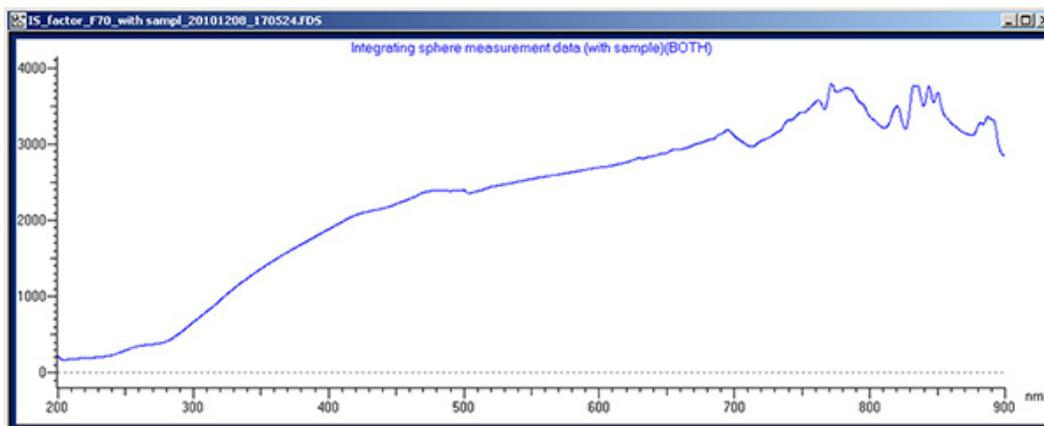

Figure 3. Click here to view larger figure.
- After measurement, the file will be saved in the "Correct" folder of FL Solutions. Figure 3 is an example of the Integrating Sphere with sample measurement data.